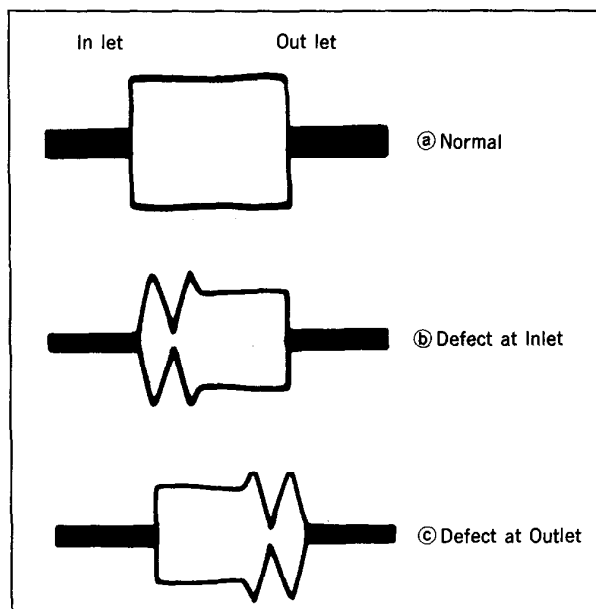

Fig. 36
- 5) Check that a RF waveform is flat at the inlet and outlet of the oscilloscope (Fig. 36 ㊸).
When the RF waveform is not flat at the inlet/outlet ; See Fig. 36 ㊹ and ㊺.